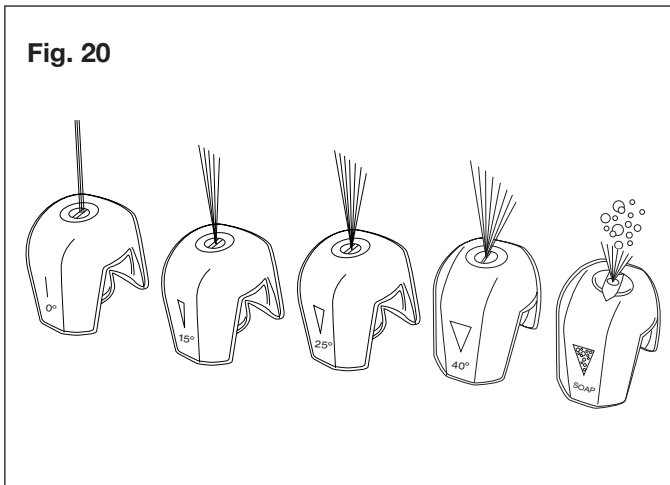

Fig. 20
5. Select the right nozzle for the job (Fig. 20):